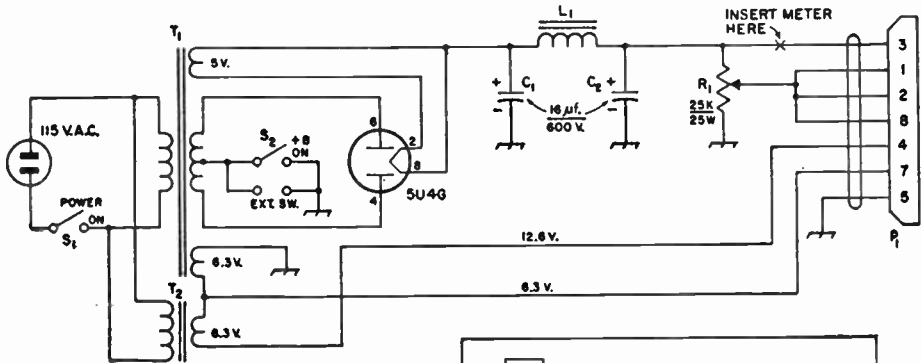

Fig. 6-91—Circuit diagram of power socket and power supply.
8) Wire the octal socket as shown in Fig. 6-91. One of the leads unsoldered from the original power socket is red with a white tracer. This is the B+ lead for the 1625s. The yellow lead is the screen lead for the 1625s and the white lead is the heater lead. Although the manuals covering this equipment specify these colors, it's safer not to take them for granted; check where each lead actually goes before connecting it to the new power socket. The lead from Pin 1 on the power socket to Pin 6 on the calibration-crystal socket is the oscillator plate-voltage lead. The leads from Pins 7 and 8 on the power plug to Pins 1 and 6 on the oscillator socket are new leads to carry power to the external crystal-controlled oscillator. The lead from Pin 4 of the power socket to Pin 2 on the 1629 (resonance indicator) socket is the 12-volt heater lead.
Fig. 6-91 shows the circuit of the power supply, which uses a 5U4G rectifier and a capacitor-input filter. The power transformer, T₁, is a type made by several manufacturers. To obtain the necessary 12.6 volts for the heaters, a 6.3-volt filament transformer is connected in series with the 6.3-volt winding on T₁. This setup also will
A key and meter connected as shown in Fig. 6-92 are needed for checking the transmitter. When P₃ is plugged into the jack in the transmitter it will measure the cathode current of the 1625s. The cathode current is the sum of the plate, screen and control-grid currents. Some amateurs prefer to install the meter in the plate lead so it reads plate current only. This can be done by opening the B-plus line at the point marked "X" in Fig. 6-91, and inserting the meter in series with the line. However, unless more than one meter is available, don't install it in the power supply setup in this way until after the tests described below have been made.